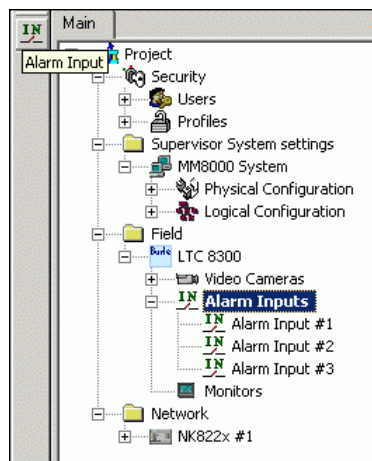

Fig 29 Adding alarm inputs to Philips/Burle switcher
3. Select the sub-nodes alarm inputs and add the alarm input nodes (→ see Fig 29).